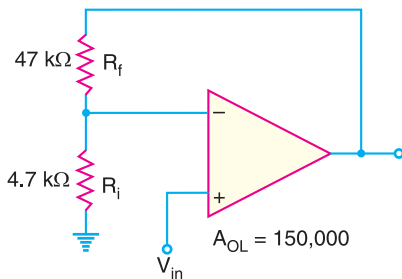

Fig. 25.102
9. Determine the closed-loop voltage gain for the circuit shown in Fig. 25.102. [11]